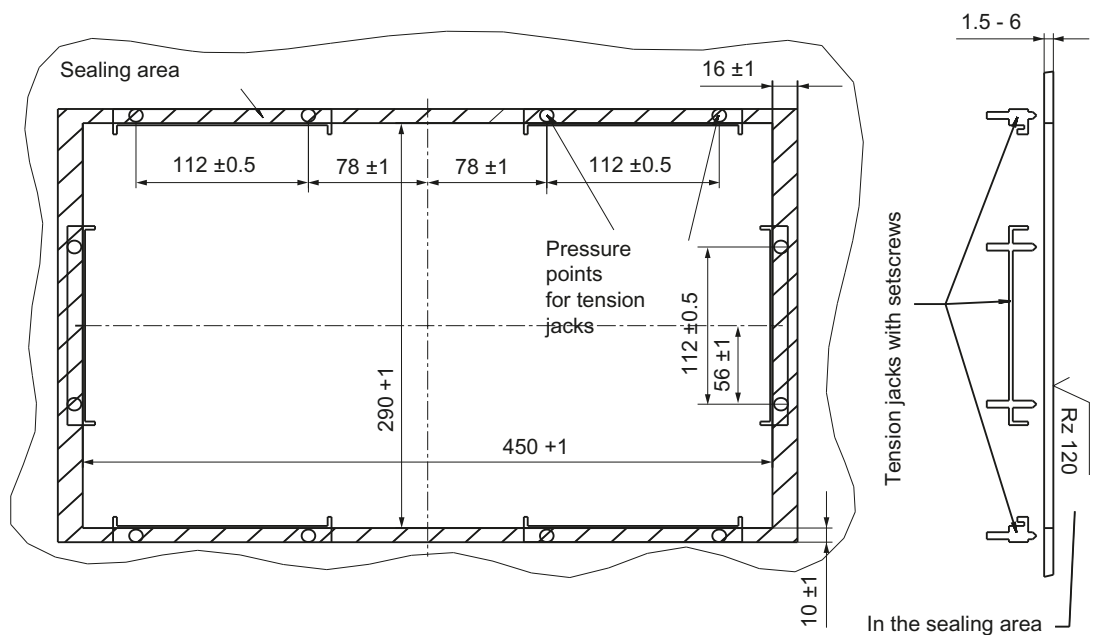

Figure 4-3 Dimension sheet for installing the OP 010C operator panel front
1. Insert the assembled components (operator panel front and PCU) from the front into the panel cutout (see Figure 4-3 Dimension sheet for installing the OP 010C operator panel front (Page 61)).